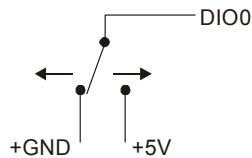

Figure 4. Schematic showing switch detection by digital channel DIO0
When you configure the digital bits for input, you can use the RedLab 5201 digital I/O terminals to detect the state of any TTL-level input. Refer to the schematic shown in Figure 4. If you set the switch to the +5 V input, DIO0 reads *TRUE* (1). If you move the switch to GND, DIO0 reads *FALSE* (0).